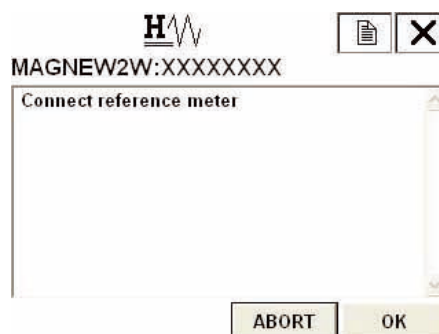

Figure 7-45
3. Figure 7-45 will then appears. Connect the device to measure the current output, and then press F4 (OK).